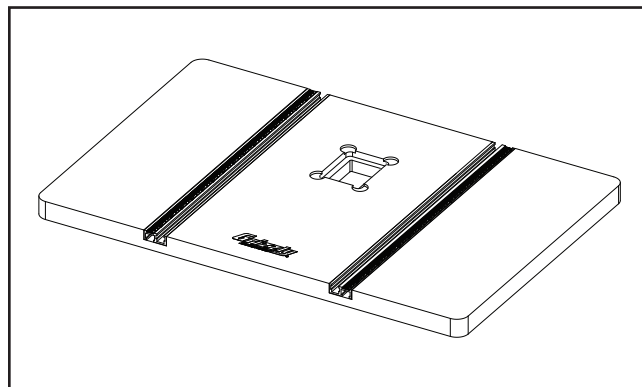

Figure 10. Model T32710 table ready for installation.
4. Remove table insert, flip-stops, and fence from Model T32710 table (see **Figure 10**).